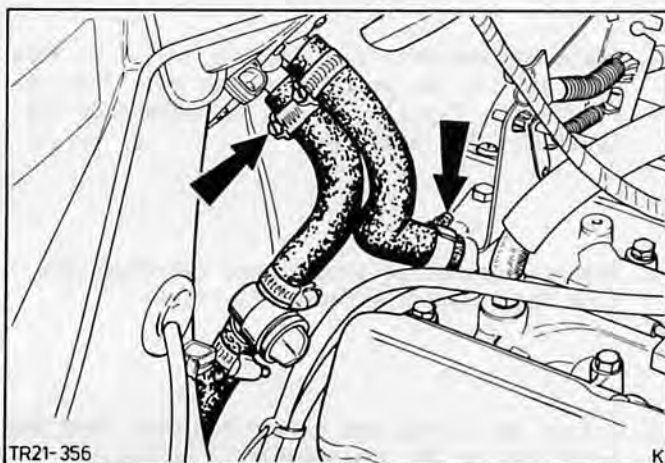

Fig.15. Remove hot water hoses.
11. Detach hot water hoses of heater from bulkhead and inlet manifold connector, Fig.15.